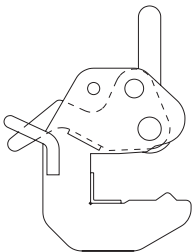

Fig. 26.2
1. Open the safety lever as far as possible (Fig. 26.2).